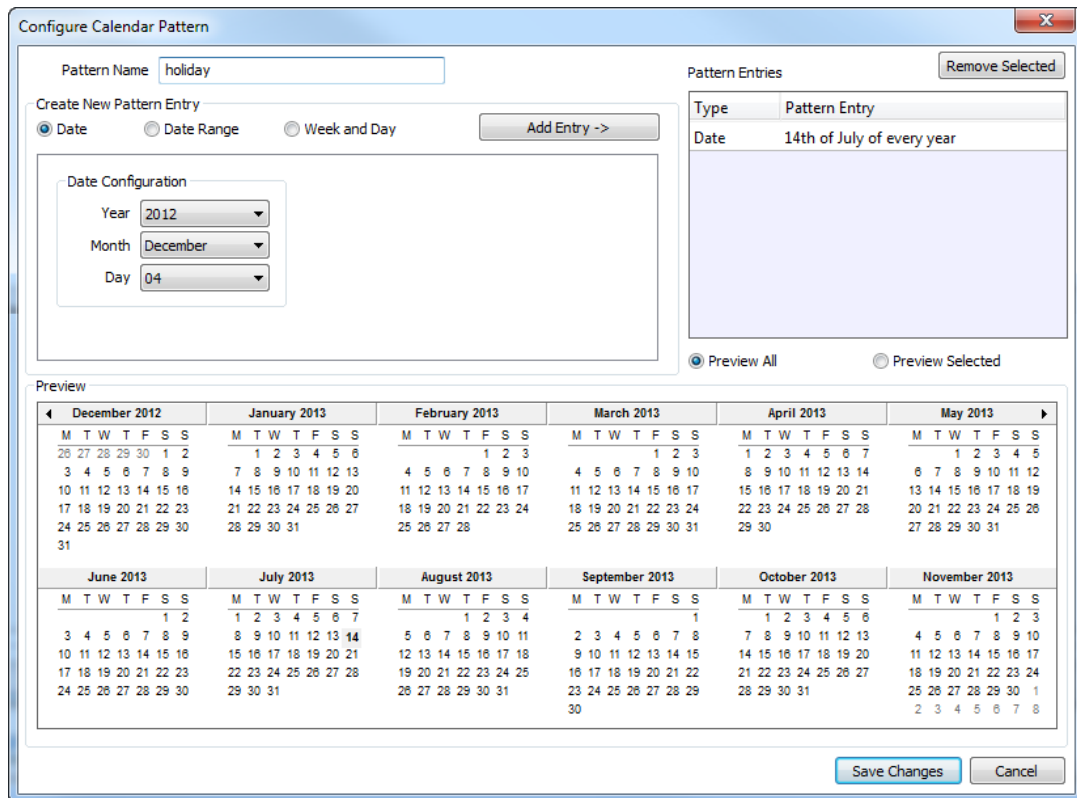

Figure 87: Configure Calendar Pattern Dialog.
3. The **Configure Pattern** dialog appears as shown in Figure 87. Add dates to the calendar pattern by entering a Date Configuration. Then click **Add Entry**. The date appears in the Pattern Entries list on the right-hand side.